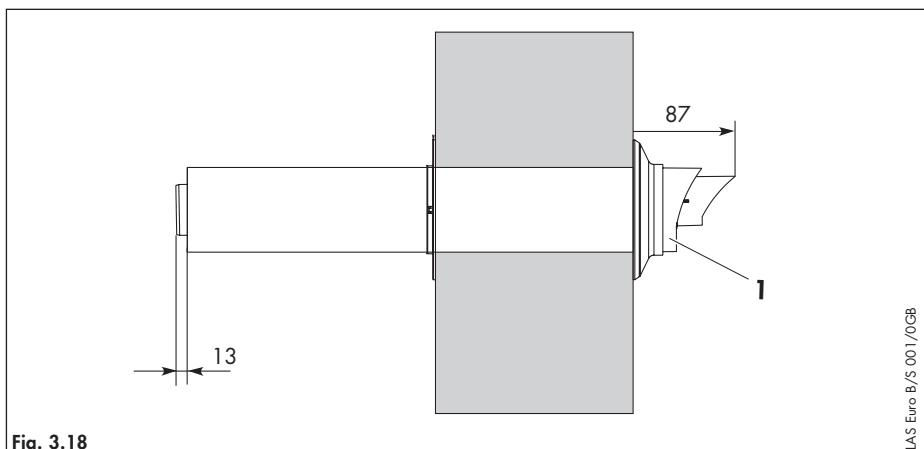

Fig. 3.18
- Push the air/duct assembly (1) including the flexible external seal through the wall until the seal clears the outside face of the wall and pull air/duct back towards the boiler until the external seal touches the outside wall (fig. 3.14 and fig. 3.18).
- Ensure that the air/duct (1) is centred in the hole and the terminal is correctly positioned with the inlet grille at the bottom (fig. 3.14 and fig. 3.18).